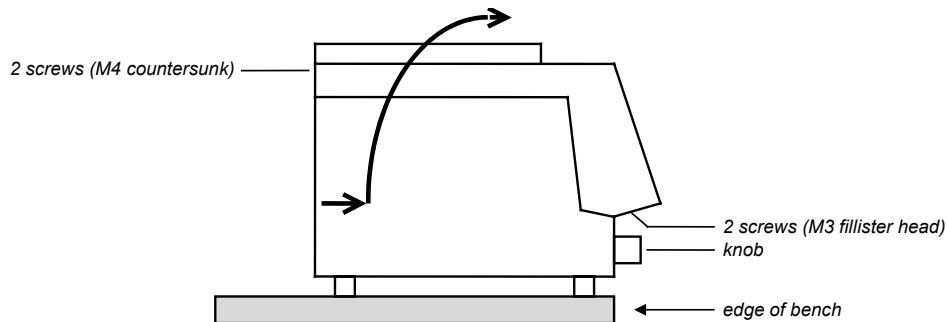

Fig. 7
- Place instrument over edge of bench to allow the M3 screws to be removed (Fig. 7)